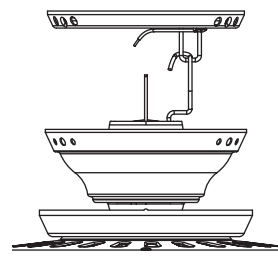

Figure 18 - Rotating the fan
1. Rotate the fan 180° clockwise from the initial position when hanging the fan. The arrows on the hanger ball and on the ceiling plate should be pointing in the same direction and should be pointing towards the tab hole on the canopy. Refer to Figure 18.